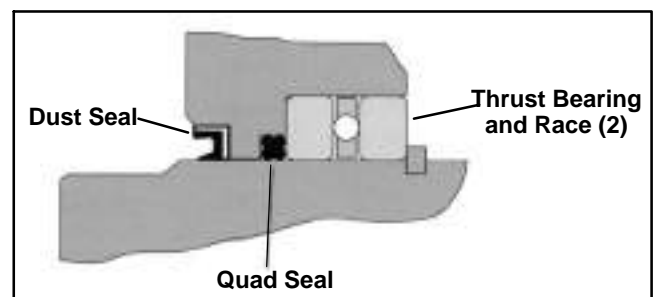

Figure 138
3. Install the centering springs in the spool. It is best to install the two (2) flat pieces first. Next, install the curved pieces, three (3) at a time.
8. Put the thrust bearing and races into the housing. The thrust bearing goes between the two races (Fig. 138).